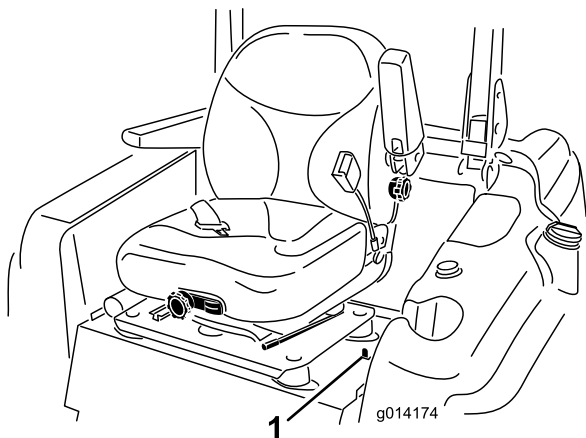

Figure 1
5. Move the seat latch (located on the left side of the seat) rearward to unlatch the seat, then pull forward on the top of the seat until the seat tilts forward and contacts the steering wheel (Figure 1).